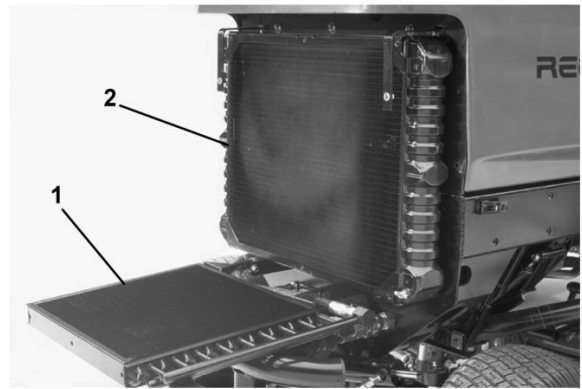

Figure 72
3. Unscrew knobs and pivot oil cooler rearward (Figure 72). Clean both sides of oil cooler and radiator area thoroughly with compressed air. Do not use water. Open hood and blow debris out toward back of machine. Pivot oil cooler back into position and tighten knobs.